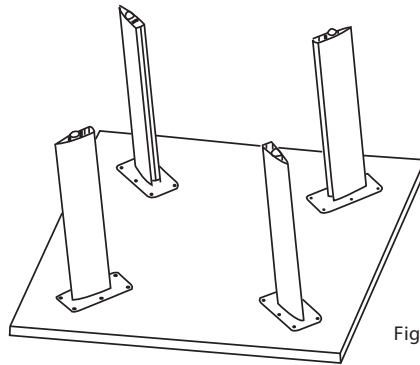

Figure 1
2. Place table upside down onto a soft surface. As shown in Figure 1, invert and position the bases onto the underside of the table and align the metal base plates with the inserts in the underside of the top. **THE BLACK PLASTIC EXTRUSION FACES TOWARDS THE CENTER OF THE TABLE.**